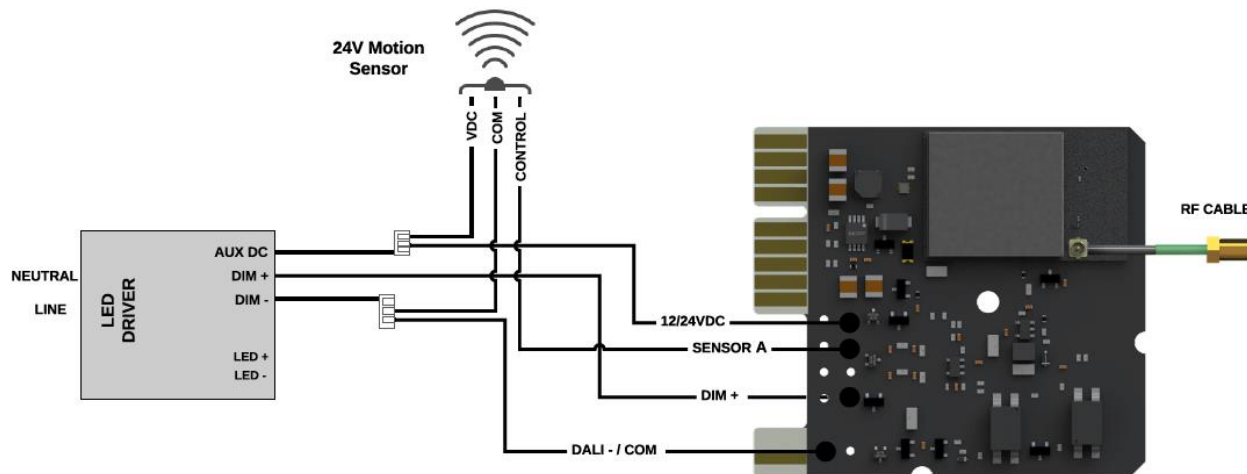

Figure 2 – Dim to OFF Wiring Diagram
(See Figures 2 and 3)
(Figure 2 and Figure 3)
22. Connect the DIM+ wire on the LED driver to the DIM+ output on the EMB-S2. (See Figure 2)